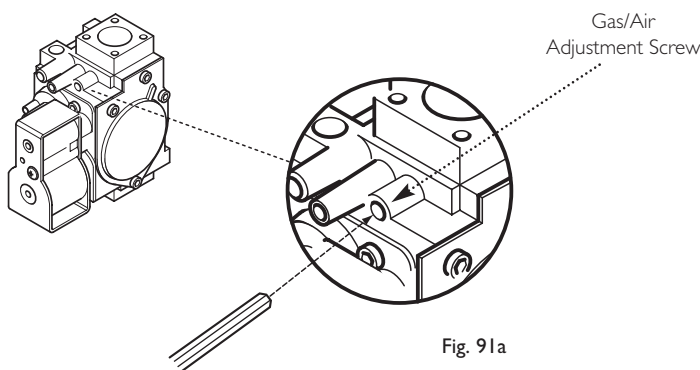

Fig. 91a
**NOTE:** To assist the boiler to light prior to final setting, use a suitable hexagon key to wind out the Gas/Air adjustment screw until it is flush with the valve body, then turn the screw 4 full turns clockwise (Fig. 91a). If the boiler will not light, or the correct CO2 cannot be achieved contact the 'heateam' technical helpline.